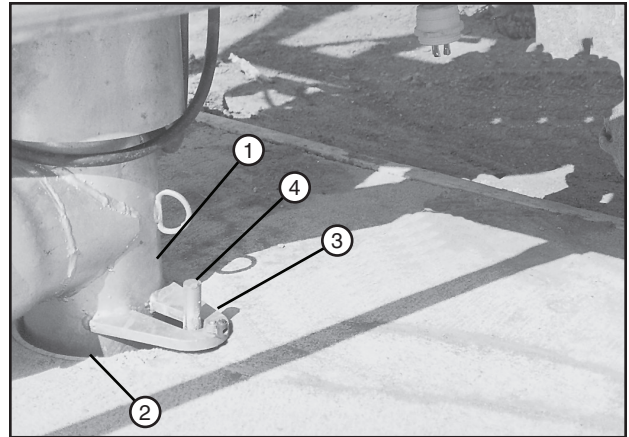

Figure 53-1 1. Riser Pipe 2. Anchor Pipe 3. Slotted Ear 4. Stud
17. Align and lower the riser pipe into the anchor pipe. Be sure the slotted ears on the riser pipe align with the studs in the pivot pad. In addition, the slotted ear on the Stop-In-Slot and End Gun Shutoff bracket must be positioned on the "T" bracket. See figure 53-1.